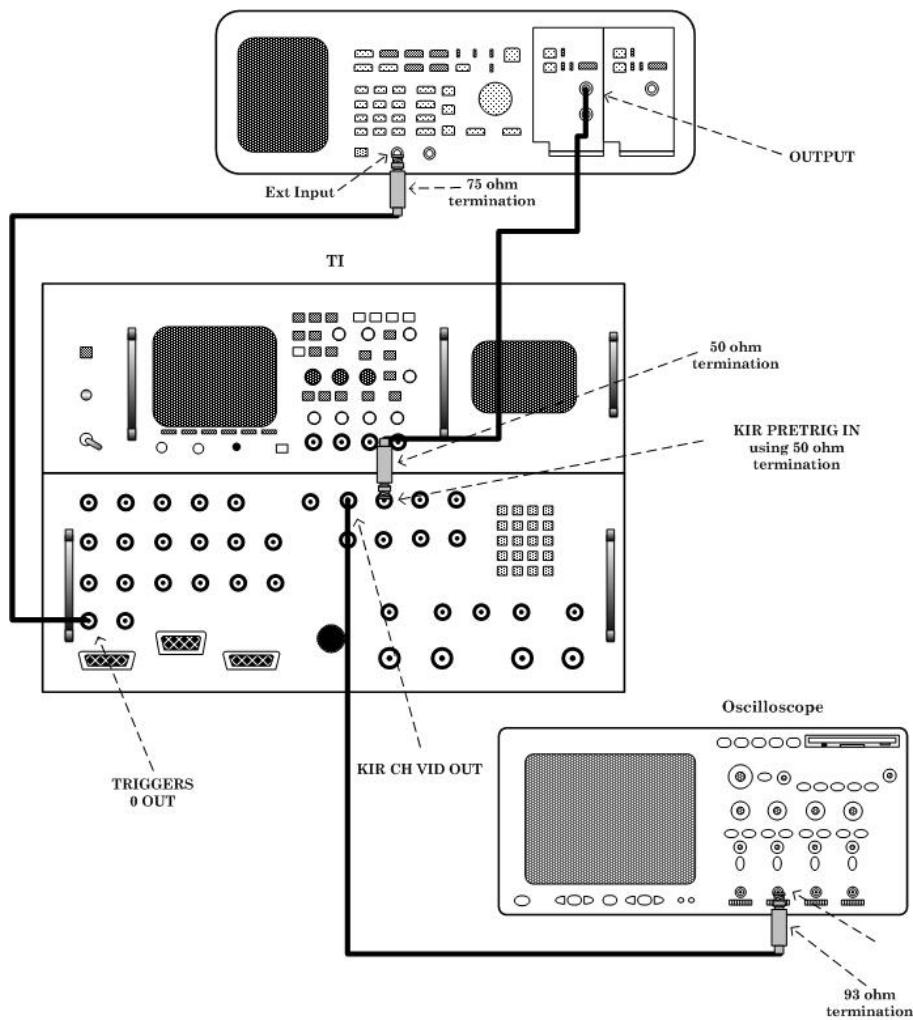

Figure 1. Kir hookup.
- (1) Connect equipment as shown in figure 1.